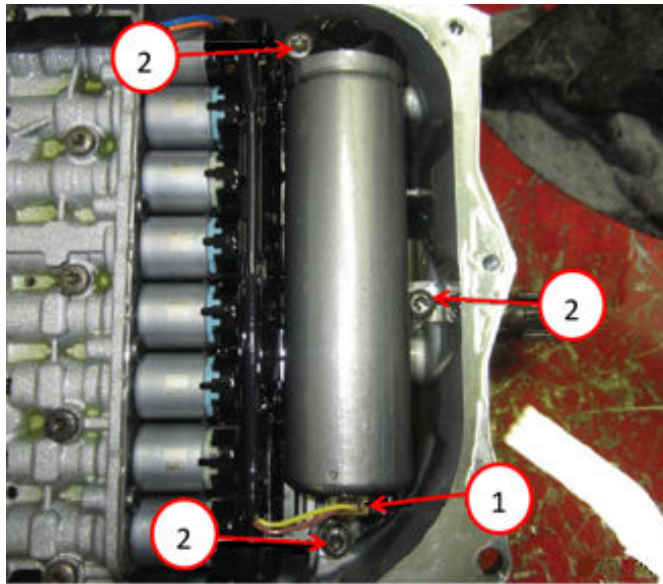

Fig. 8
13. Remove the valve body assembly end retainer bolts Fig. 8.